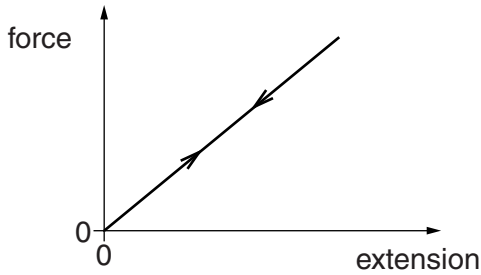

Fig. 8.2
- (b) Fig. 8.2 shows a force against extension graph for an elastic material. The work done on this material during loading (upward arrow) is equal to the energy returned by the material when the load is removed (downward arrow).